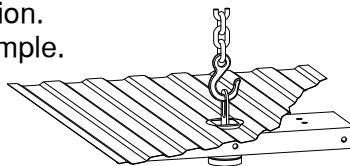

Figure A1.
5. **Prepare a lifting device (optional).** The purpose of the device is to safely hold the hitch in position during part of the installation. See Figure A1 for an example. A simple mechanical lifting device is available for purchase from B&W.